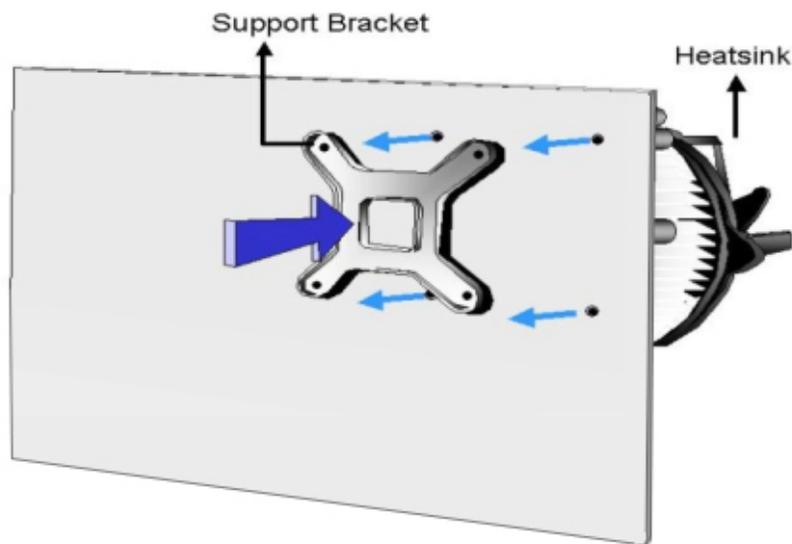

Figure 4-6: Securing the Heat sink to the IMB-Q670
- Step 4: Secure the cooling kit.** From the solder side of the PCB, align the support bracket to the screw threads on heat sink that were inserted through the PCB holes. (See **Figure 4-6**)